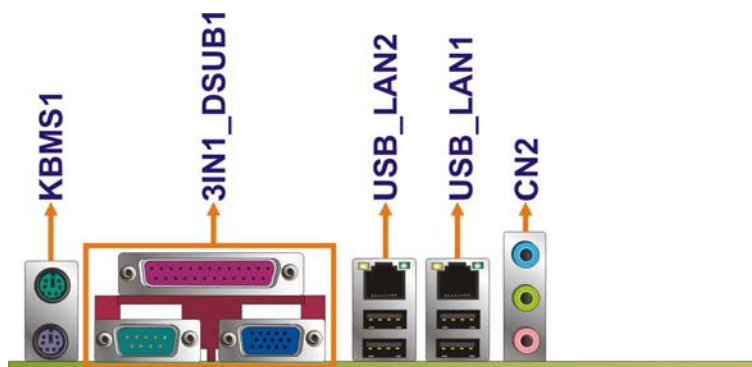

Figure 4-24: IMBA-9454ISA External Interface Connectors
- CN Location: See Figure 4-24
CN Location:	See Figure 4-24
CN Location:	Figure 4-24
- CN Location: See Figure 4-24 (labeled 6)